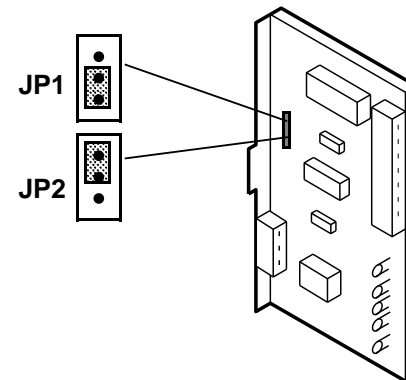

Figure 1. RS-232 PWB Jumpers
2. Set the RS-232 PWB jumpers (Figure 1) to the required settings as shown in Table 1.